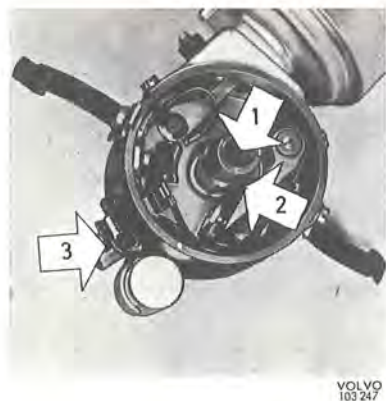

Fig. 1-10. Distributor
be lubricated. The distributor shaft is lubricated by filling the oil cup (3, Fig. 1-10) with engine oil. After filling, close the cup. The contact surface (2) of the cam disc should be lubricated with a thin coating of grease, Bosch Ft 1 v 4, or corresponding grease. The ignition advance mechanism should be lubricated by pouring 2–3 drops of light engine oil (SAE 10 W) on the wick (1) in the distributor shaft.